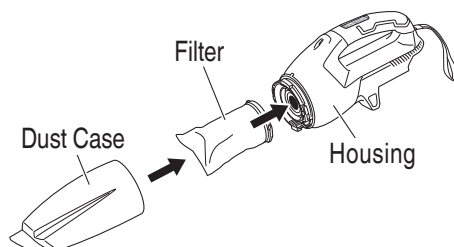

Fig. 15
1. Verify the filter (Fig. 15)